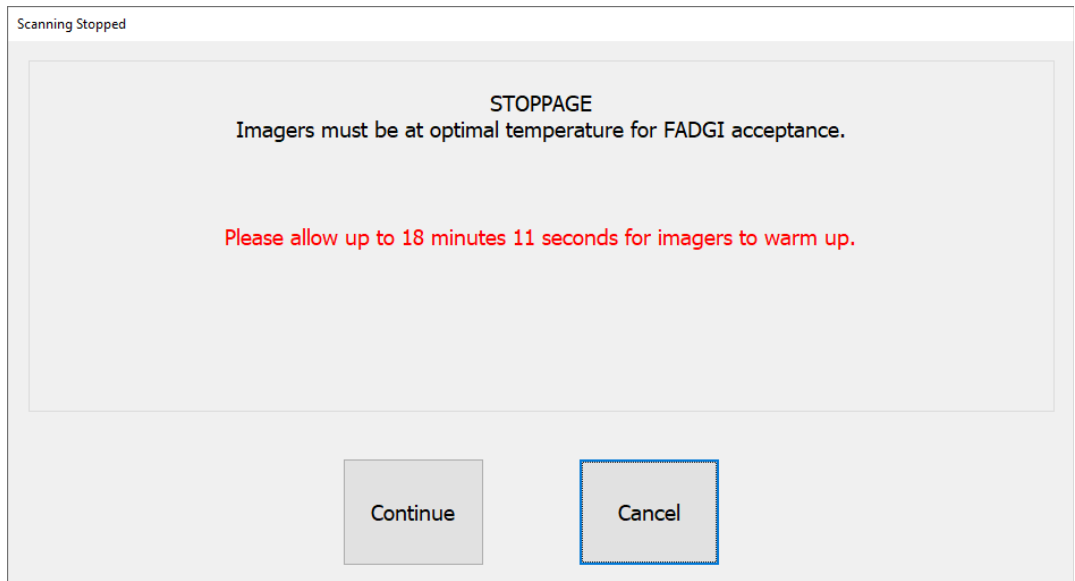

Figure 3-34: Timer Screen
- When you start a FADGI Job, you may be presented with a timer screen. The CIS's must reach optimal temperature before beginning a FADGI Job, because a "cold" CIS can impact the scanned colors. (Figure 3-34).